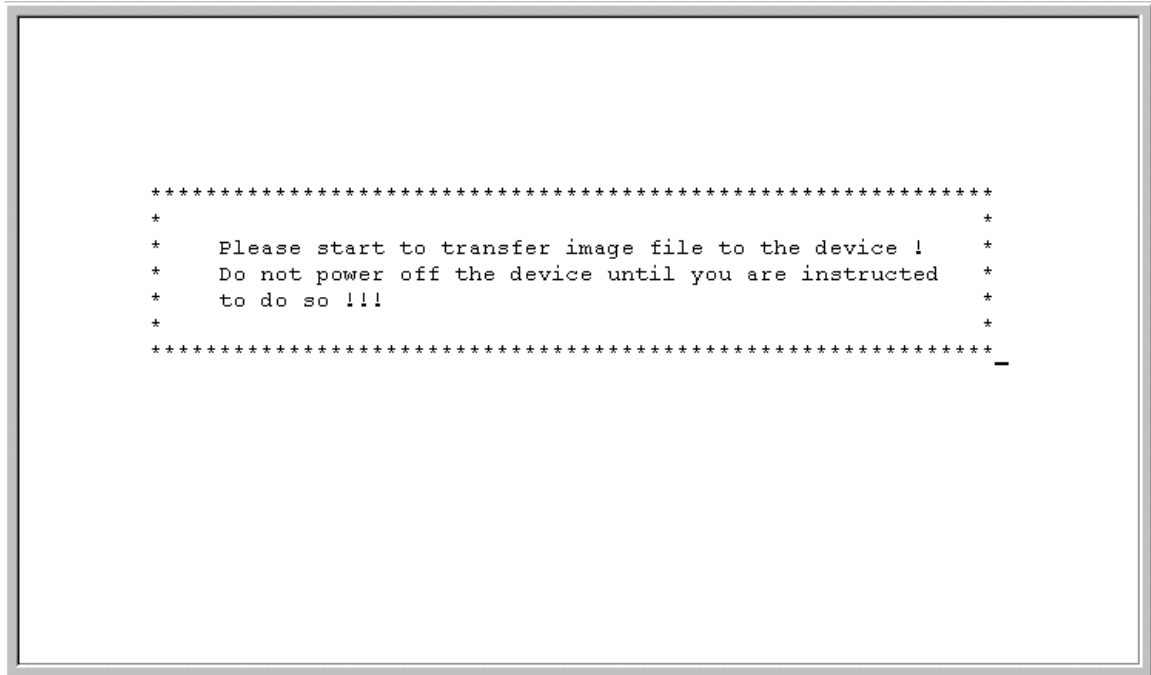
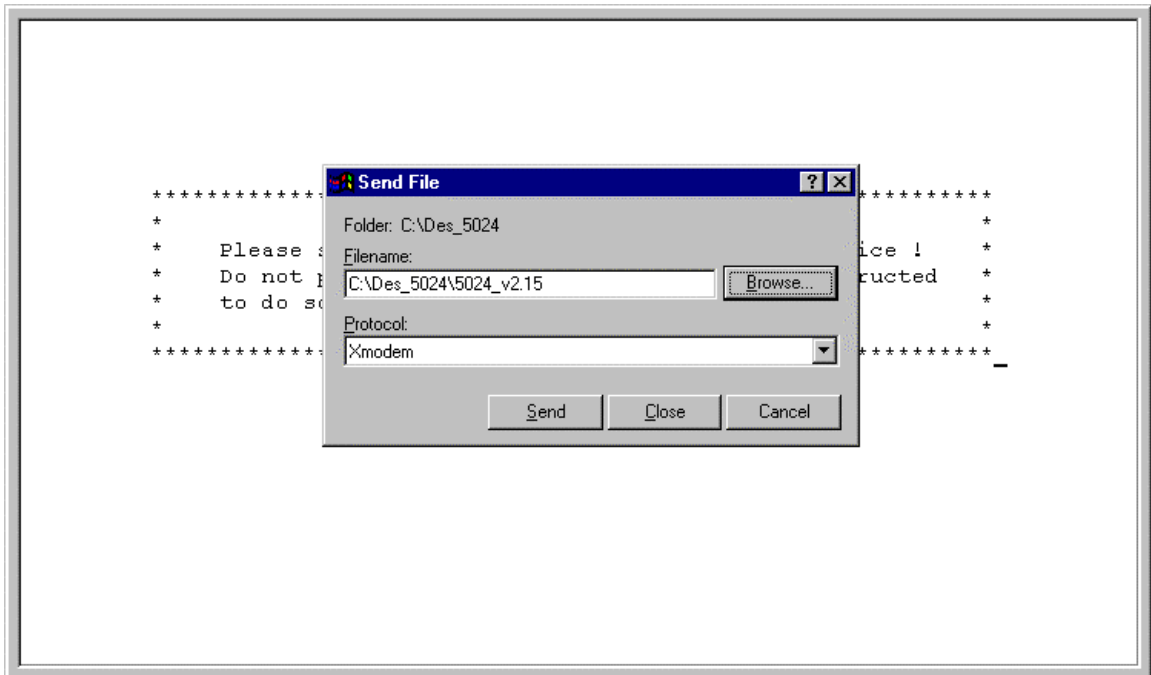

Figure 25: Transfer Firmware
Figure 26: Send File
4. You will see the panel displayed in Figure 25. Select Transfer on the HyperTerminal menu bar at the top of the screen.
5. Select Browse on the panel displayed in Figure 25. The browse option shows the contents of your hard drive. You must specify the path from the DES-5024 to the file the firmware is in. Navigate to the file the firmware is stored in and select it. Use XMODEM displayed in Figure 26, to transfer the file.